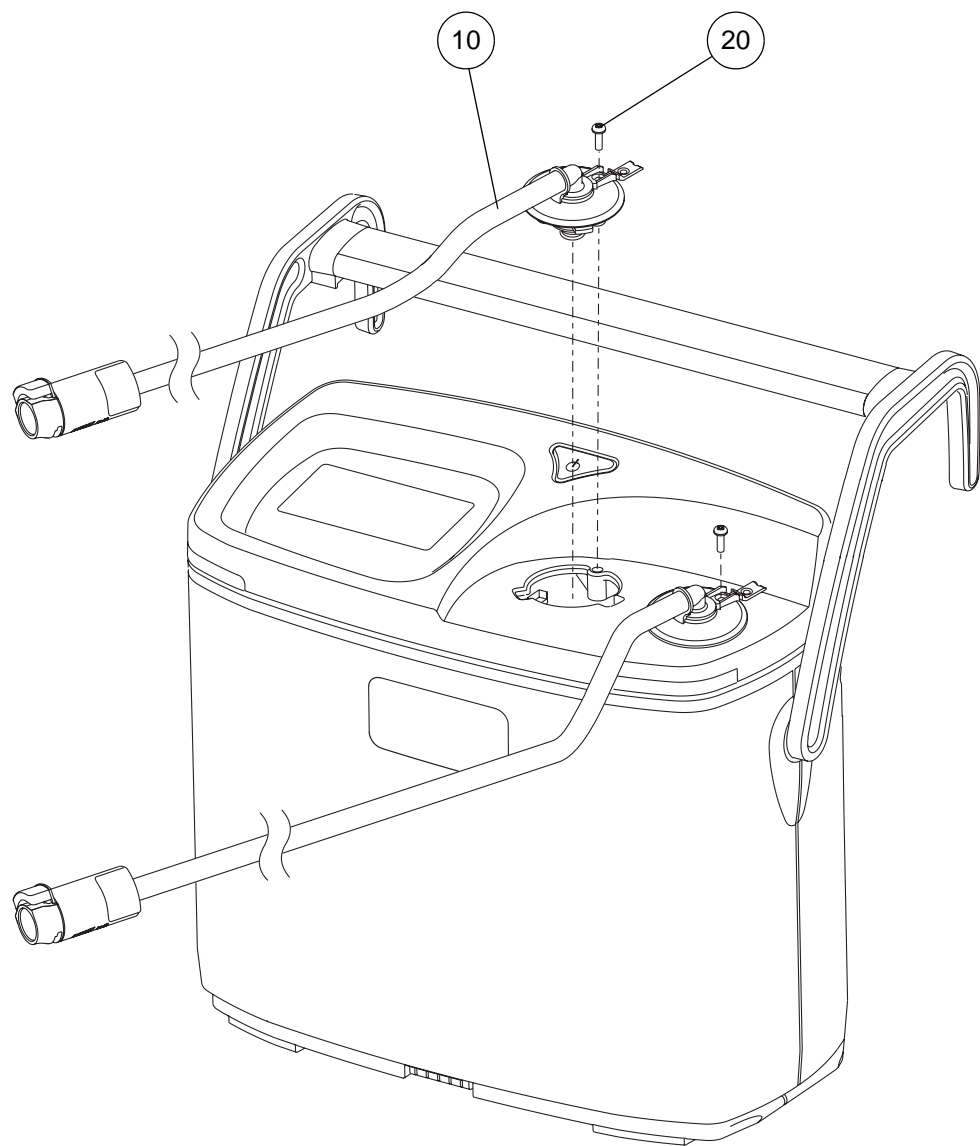

Figure 34 - Replacing the Hose Sets
The hose set assembly (Fig 34, Item 10) comprises a length of tube with a pump connector at one end and a garment connector at the other.
- 8.2 Remove the screw (Fig 34, Item 20), and retain for future use.
- 9.2 Put the hose set assembly (Fig 34, Item 10) by the pump, with the elbow retaining cover adjacent to the case cutout in the top of the pump.
- 9.7 When the elbow retaining cover is in the correct position, install the screw (Fig 34, Item 20) and tighten it to secure the hose set assembly to the pump.